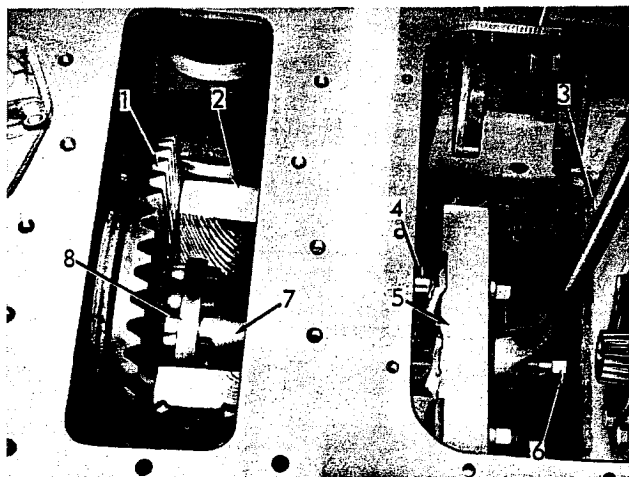

Fig. 51 -- Pulling Bevel Gear Shaft
4. Refer to Fig. 51, install wooden blocks between bevel gear teeth and compartment wall to hold gear stationary. Install puller tools similar to those shown; pull bevel gear shaft from bevel gear.